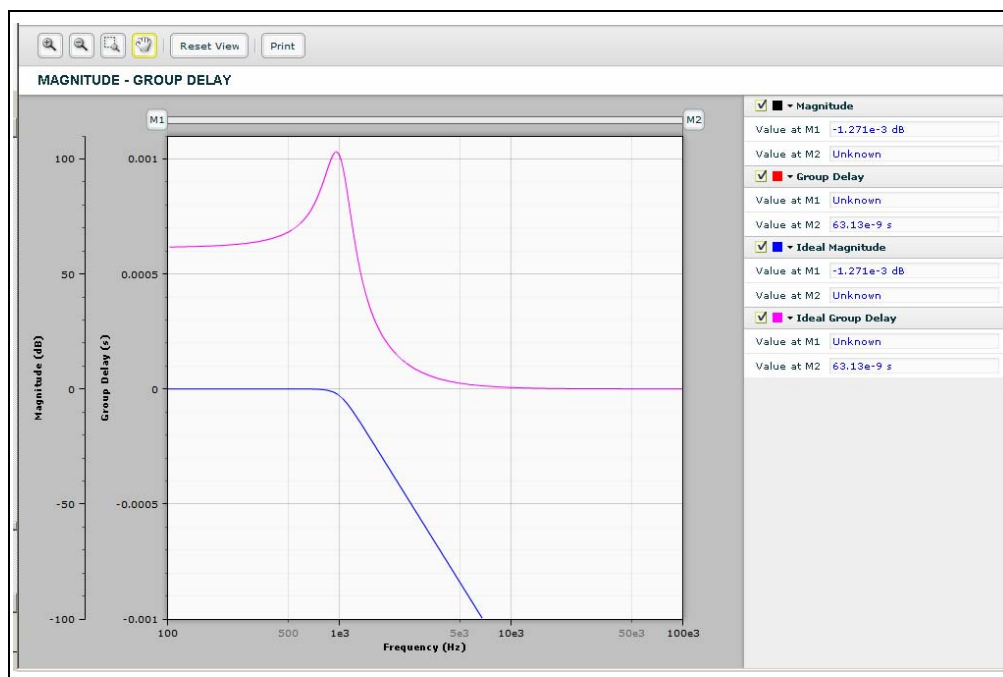

FIGURE B-2: Magnitude - Group Delay Response
- Moderate group delay response (Figure B-2)
The magnitude - group delay response of the 6th order Low-pass filters with Butterworth approximation is shown in Figure B-2.